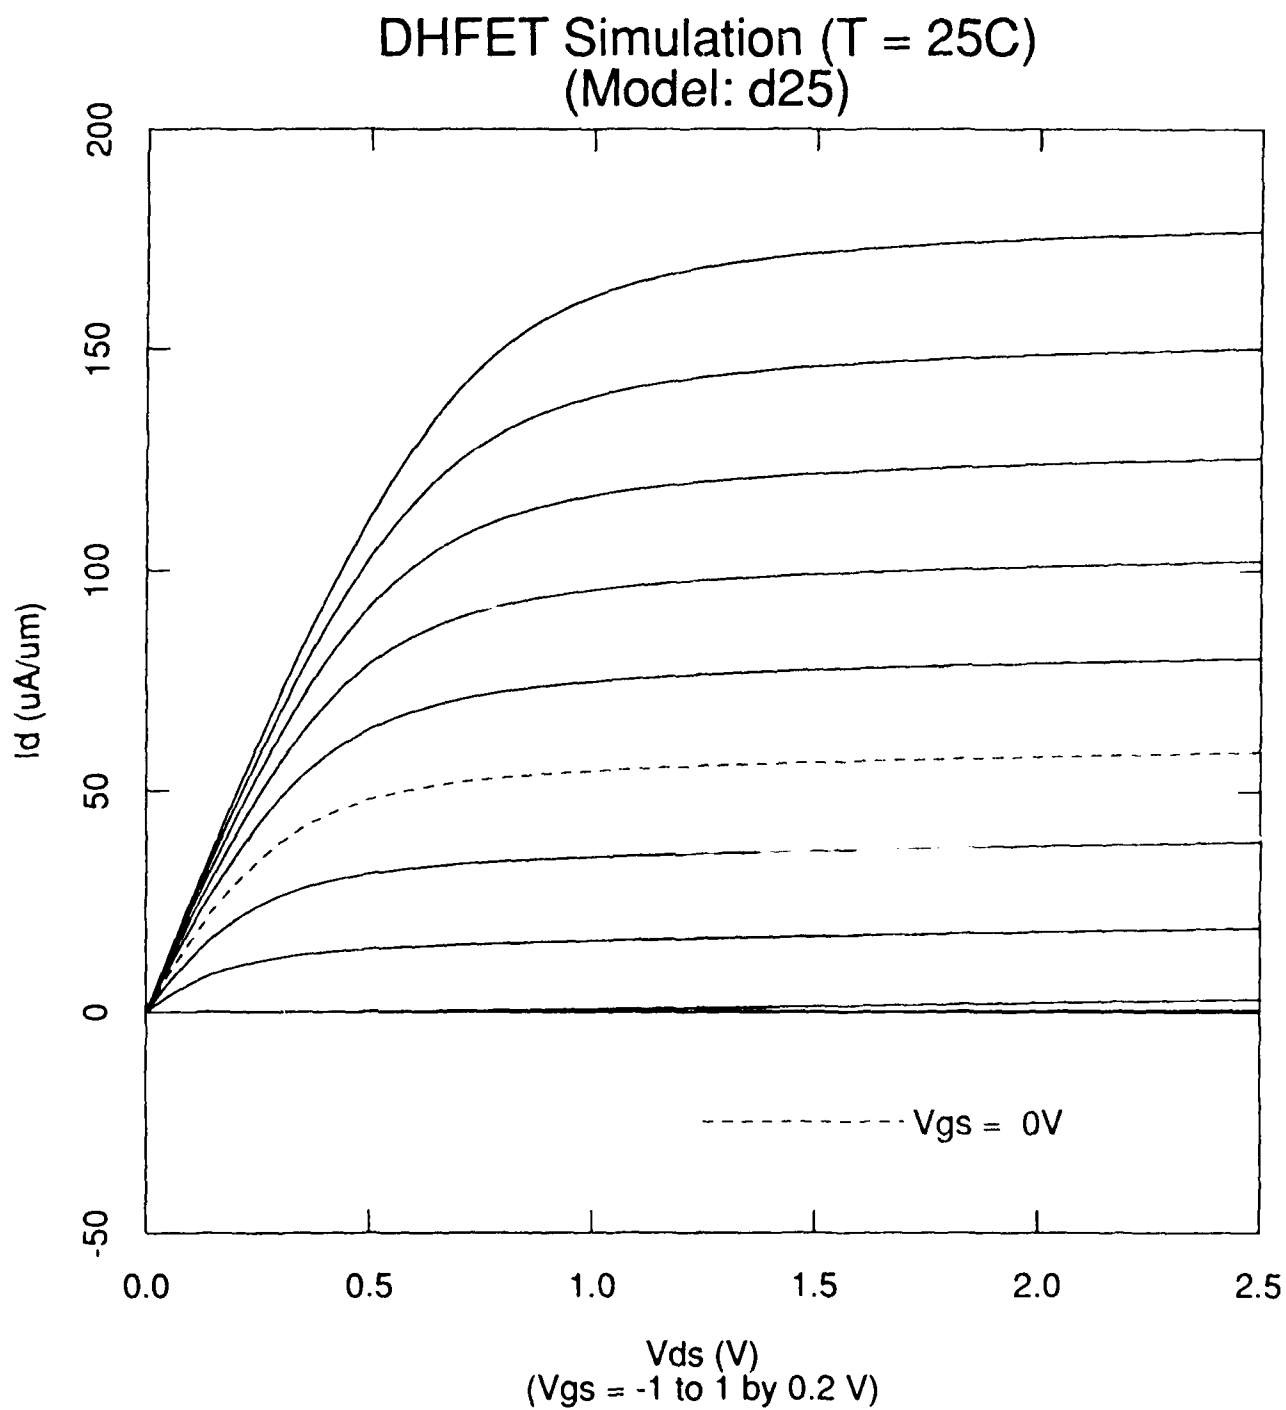

Figure 1. I_d vs. V_{ds} (V_{gs} stepped) for d25 DHFET Simulation at 25C.
- Figure 1. I_d vs. V_{ds} (V_{gs} stepped) for d25 DHFET Simulation at 25C.